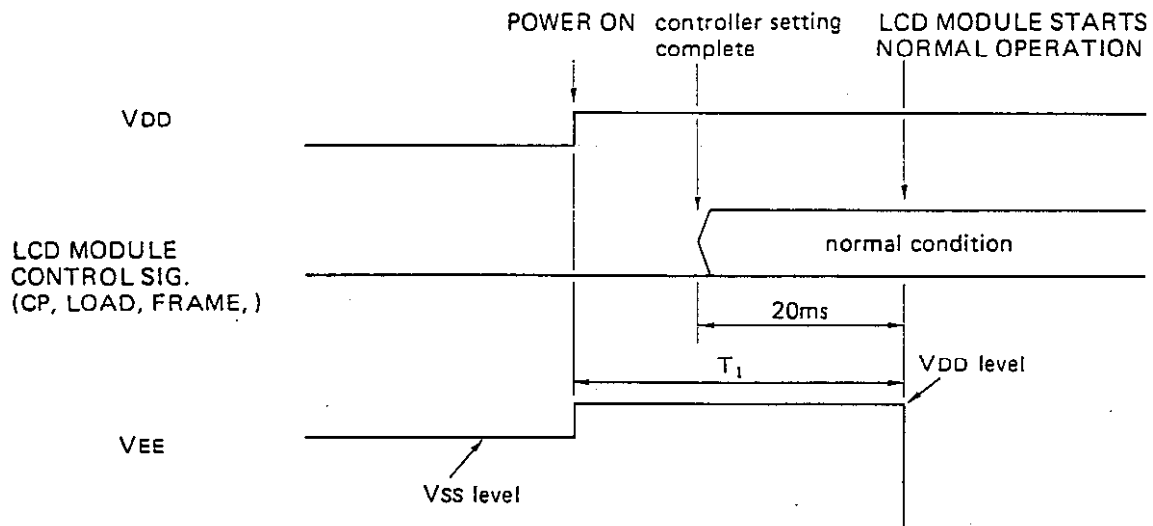

Fig.12-2
- T_1 : A time from turning on power to drive circuit in LCD module starts its normal operation. (See Fig.12-2 on the succeeding page.)
Therefore, there is possibility of DC voltage being applied to LCD panel in a period of T_1 shown in Fig.12-2 below.